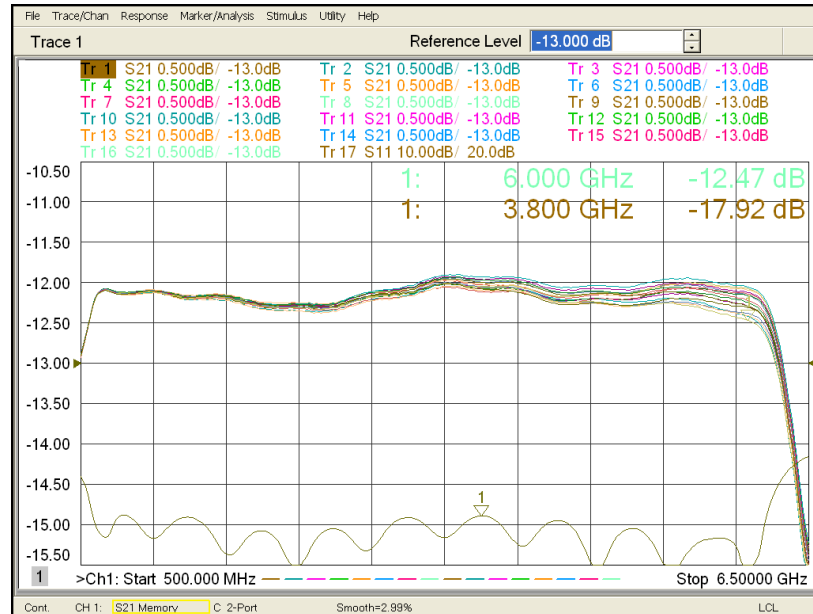

Figure 4-6. Typical Sixteen-Way Combiner Insertion and Return Loss: Combined Output Port
- A typical Sixteen-Way Combiner Insertion Loss and Combined Port Return Loss is shown in Figure 4-6. The unused port must be terminated when checking the Insertion Loss.
NOTE: The Return Loss of the Sixteen-Way Combiner's combined output port is typically better than 17dB (see Figure 4-6).